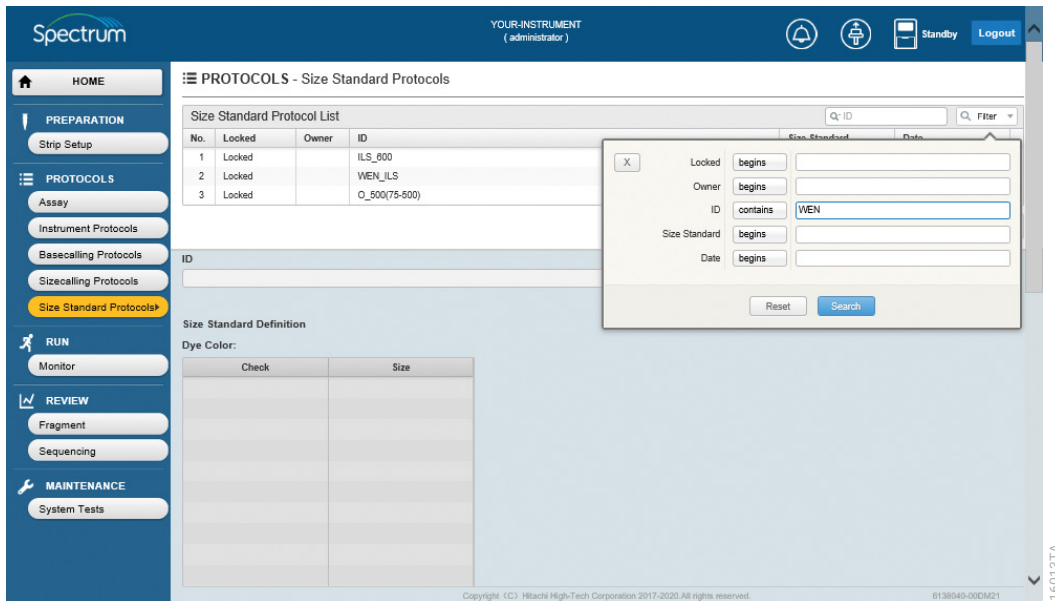

Figure 65. Size Standard Protocol List search filter option selection.
5. After selecting the appropriate filter for search terms in the field being search (i.e., Locked, Owner, ID, Size Standard or Date), type the desired search term in the adjacent box and select **Search** (Figure 65). Alternatively, select **Reset** to exit.